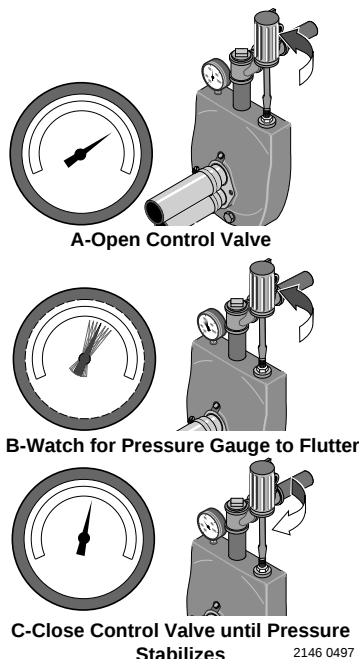

Figure 11: Set Control Valve
- Step 5. When pressure has built up and stabilized at about 50 PSI, slowly open the control valve (see Figure 11) and let the pressure drop until the pressure gauge needle starts to flutter. When the needle flutters, close the valve just enough to stop the flutter (see Figure 11). Your pump is now operating at its most efficient point.